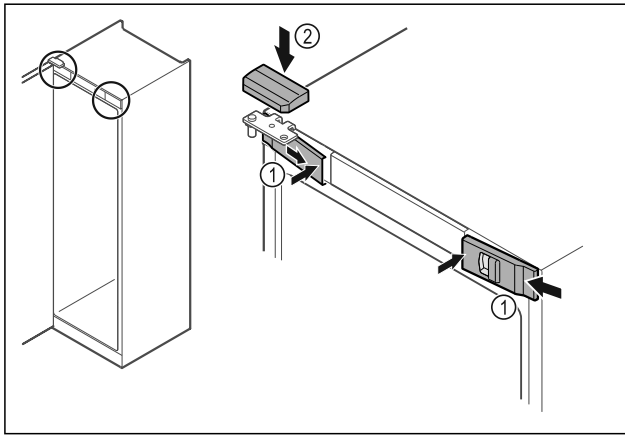

Fig. 42
- ▶ Hook in the front covers Fig. 42 (1) on the side and snap them into place on the inside.
- ▶ Snap on the top cover Fig. 42 (2) from above.